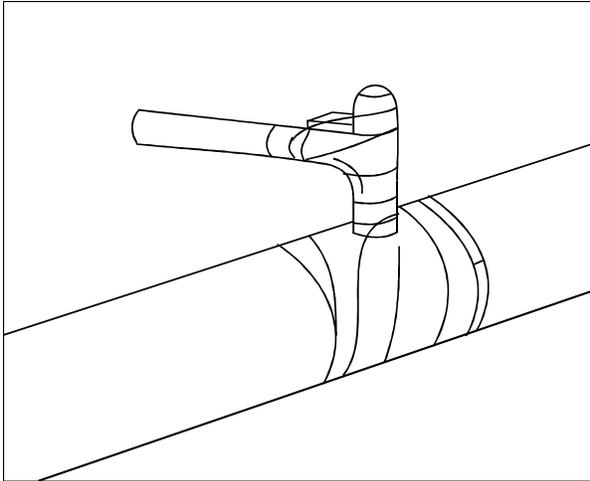

Figure 26 - Completed connection with waterproof tape wrapped over all exposed metal surfaces
4. Once the connection is made, complete the protection by the application of waterproof tape over all exposed metal surfaces, including the ferrule (Figure 26).